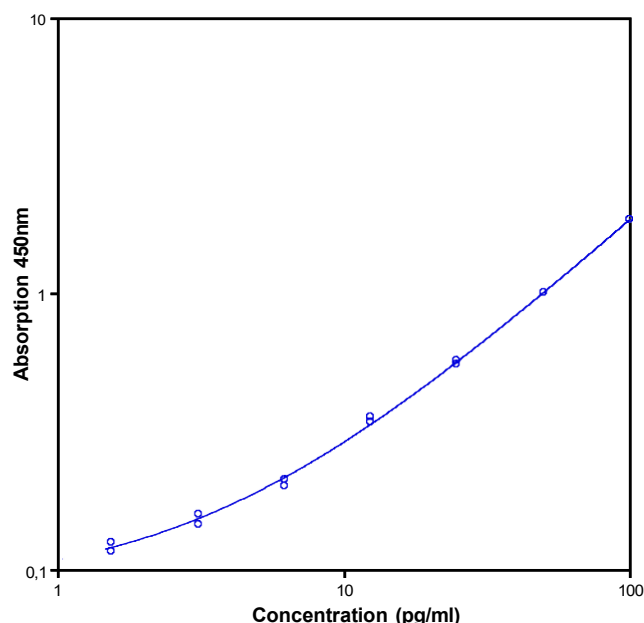

Fig. 8 Representative standard curve for Human IL-6 ELISA Kit (Colorimetric). Human IL-6 was diluted in serial 2-fold steps in Assay Buffer (1x).
- A representative standard curve is shown in Figure 8.